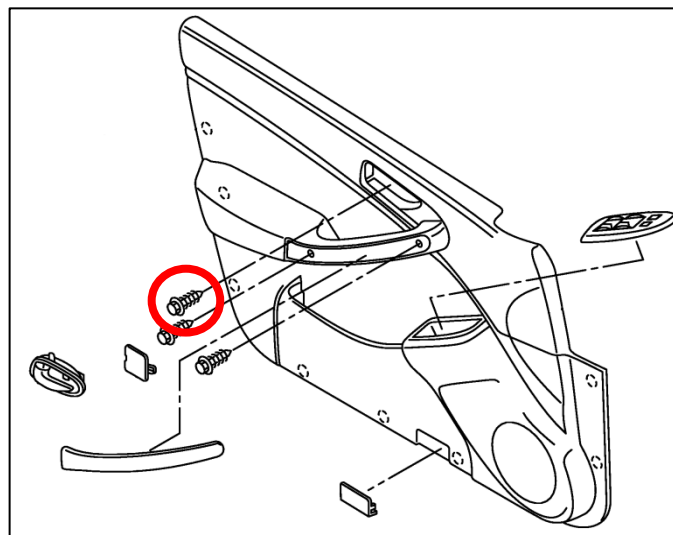

Figure 19
4. Remove the (1) one 10mm Bolt hidden behind the Trim Piece that was just removed. *Figure 19.*